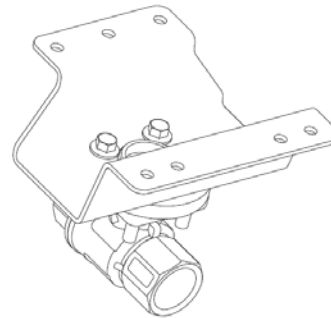

Figure 7: Install Valve Adapter Bracket
3. Install the valve adapter bracket over the thermal barrier and attach the valve adapter bracket to the valve using the four M5 screws and flanged nuts (Figure 7). Recommended torque is 35 to 44 lb·in. (4.0 to 5.0 N·m).